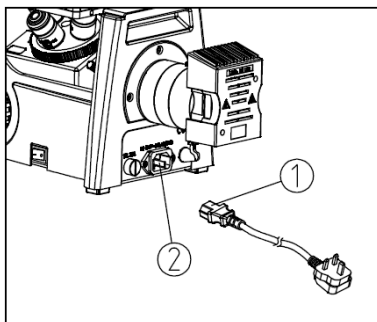

Fig.10
- (1) Make sure the main power switch is at "O" (OFF) position.
- (2) Insert one side of power plug ① into microscope socket ② and the other side connecting to power supply. (Fig. 10)